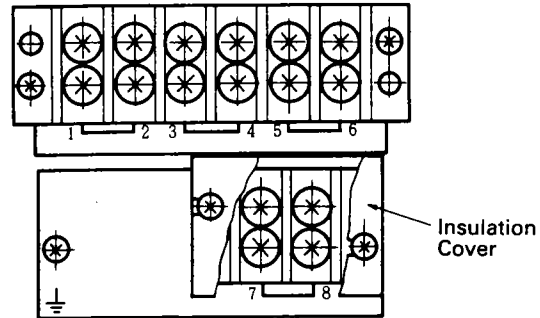

Figure 5.11 Detector Terminal Board Configuration
- (2) Select the proper wire for the job. To select the proper wire you must consider the total distance between the detector and the converter and you need to know the upper temperature that the wire will be exposed to. For distances in excess of 980 feet use 14 AWG wire. For shorter runs 16 AWG wire may be used. It is recommended that the cabling be installed in conduit, with the heater and signal cables in separate conduits. The heater cable should be overall shielded 2 conductor and the signal cable should be 6 conductor overall shielded. For temperatures less than 195 Deg. F use cable insulated with PVC such as Alpha Cable Corp. part number 5610/1604 (signal cable). For temperatures up to 360 Deg. F use cable insulated with Teflon and Fiberglas braid over shield such as Alpha Cable Corp. part number 2920/6 (signal cable).
- (3) Proceed with wiring the detectors. See Figure 5.11 for cable terminations. To connect the heater, the phenolic insulation cover must be removed by loosening the screws on either side.